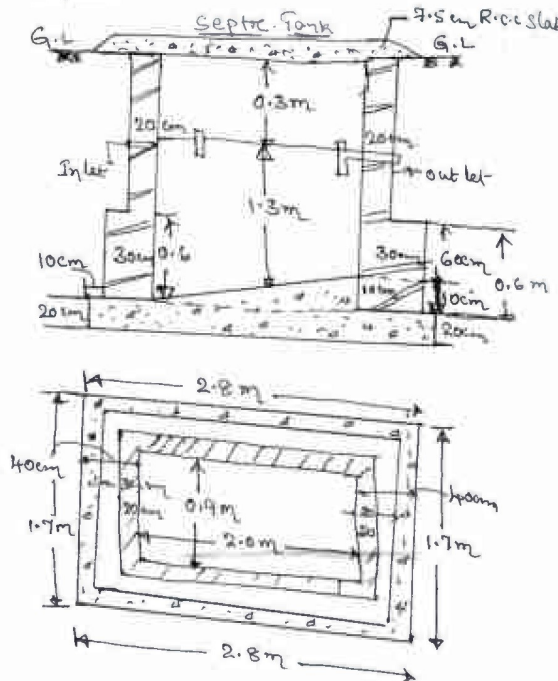

Fig.Q3
- 3 The details of a septic tank is as shown in Fig.Q3. Estimate the quantities for the following items of work.